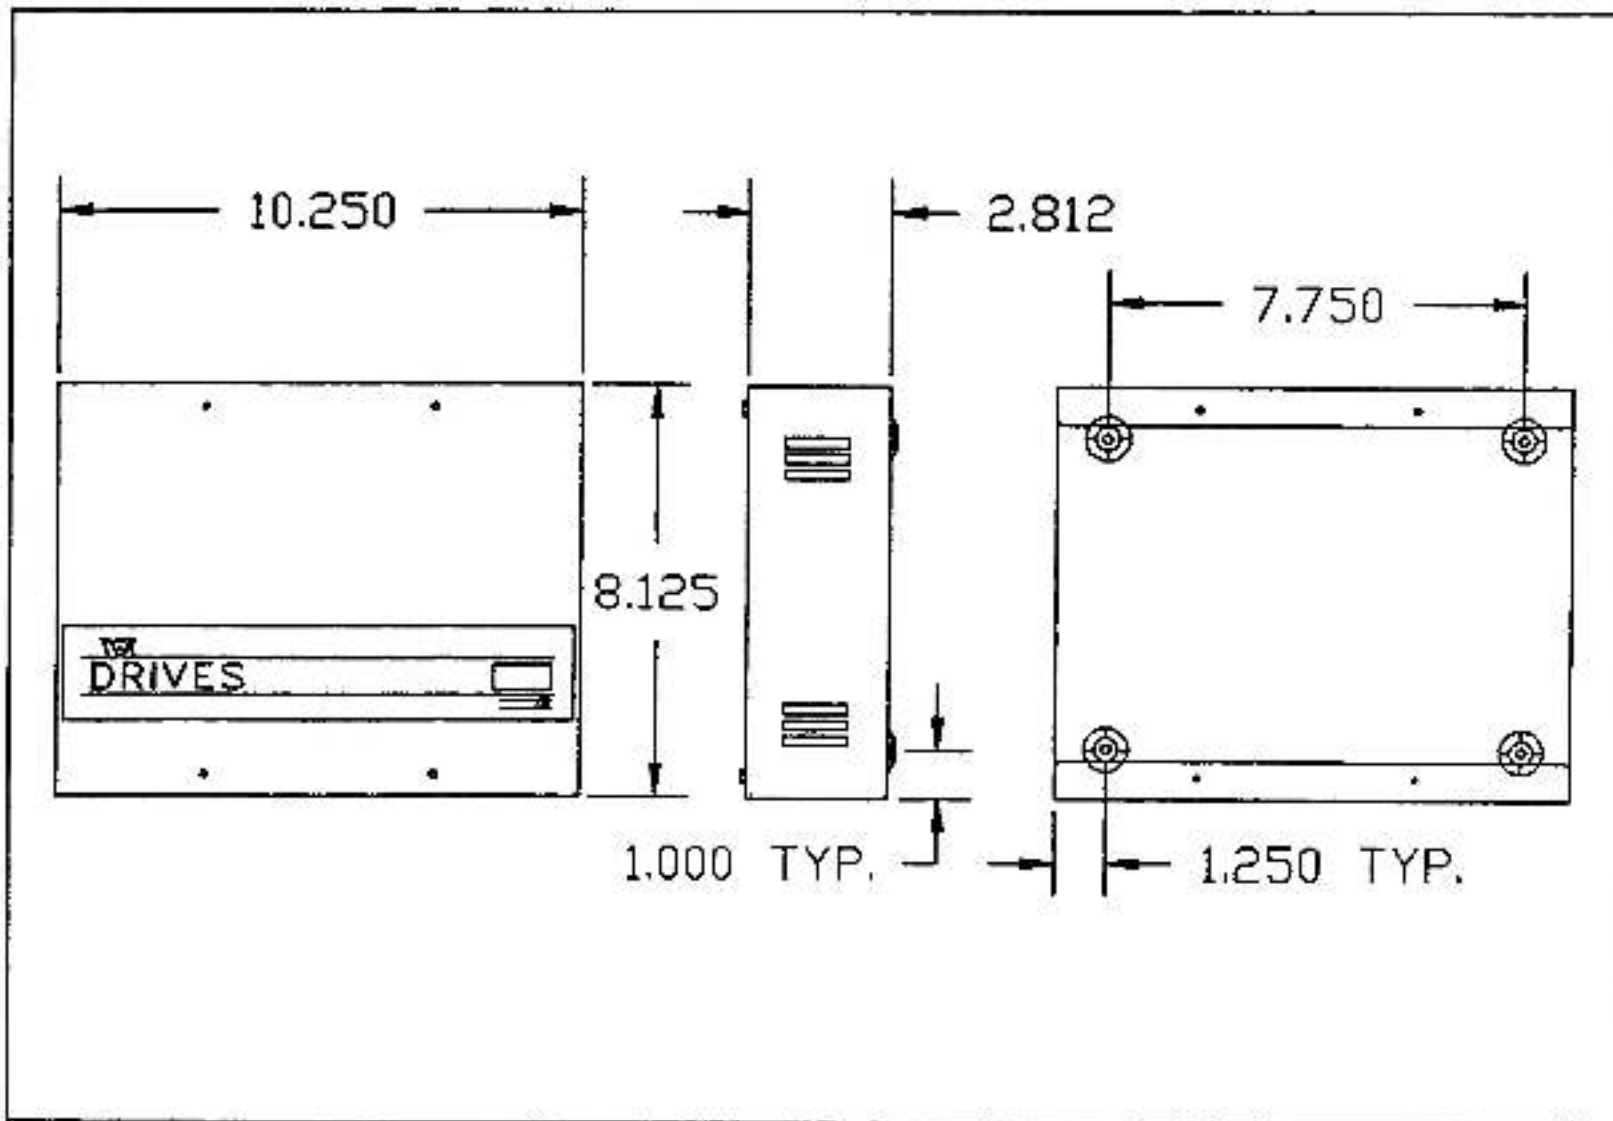

Figure 1. Control Signal Buffer Kit Dimensions and Mounting Hole Locations.
4. Mount the Control Signal Buffer kit in the selected location. Refer to Figure 1 for mounting hole detail.